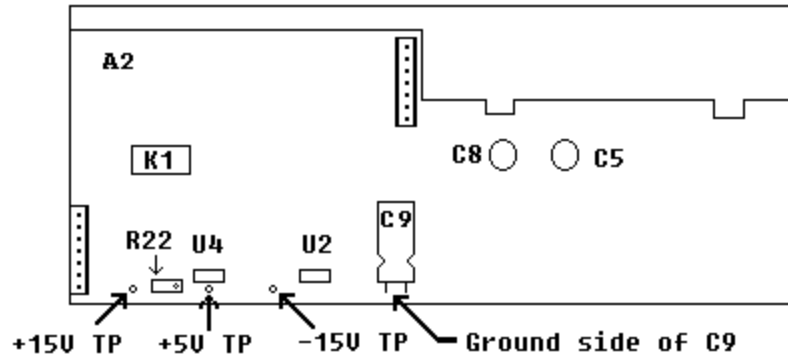

Figure 5. Power supply assembly A2 – test instrument top view.
(1) Connect multimeter **INPUT HI** to -15 V TP (fig. 5) and **LO** to ground side of C9 (fig. 5). Adjust R22 (fig. 5) for a multimeter indication of -14.97 to -15.03 V dc (R).
(2) Connect multimeter **INPUT HI** to +15 V TP (fig. 5). Readjust R22 (fig. 5) if multimeter does not indicate between 14.9 and 15.1 V dc.
(3) Connect multimeter **INPUT HI** to +5 V TP (fig. 5). Readjust R22 (fig. 5) if multimeter does not indicate between 5.01 and 5.05 V dc.
(4) Repeat (1) through (3) above for best in-tolerance condition on all test points.
- (9) Connect multimeter **INPUT HI** and **LO** to TI **SIGNAL**. Do not use 50Ω feedthrough termination.
- (10) Enter **5 VOLT** using **DATA** keys.
- (11) Press **AMPTD CAL** key. Adjust R22 (fig. 5) until multimeter indicates 10.000 V dc.
- (12) Enter **-5 VOLT** using **DATA** keys.
- (13) Multimeter will indicate between -9.985 and -10.015 V dc.